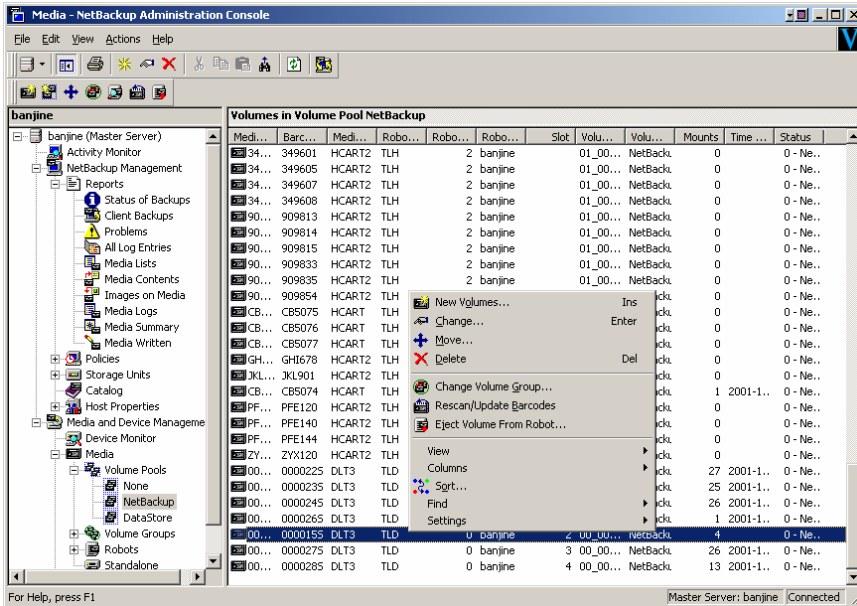

Figure 1
3. Remove the physical media from the library. The NetBackup GUI supports ejecting cartridges through the I/O port (also sometimes referred to as a Cartridge Access Port or Media Access Port) from TLD, TL8, or API-based TLH, TLM and ACS robot types. This procedure is recommended if you're using NetBackup software to guarantee the correct tape is removed. This is a two-step process as shown Figures 1 and 2.